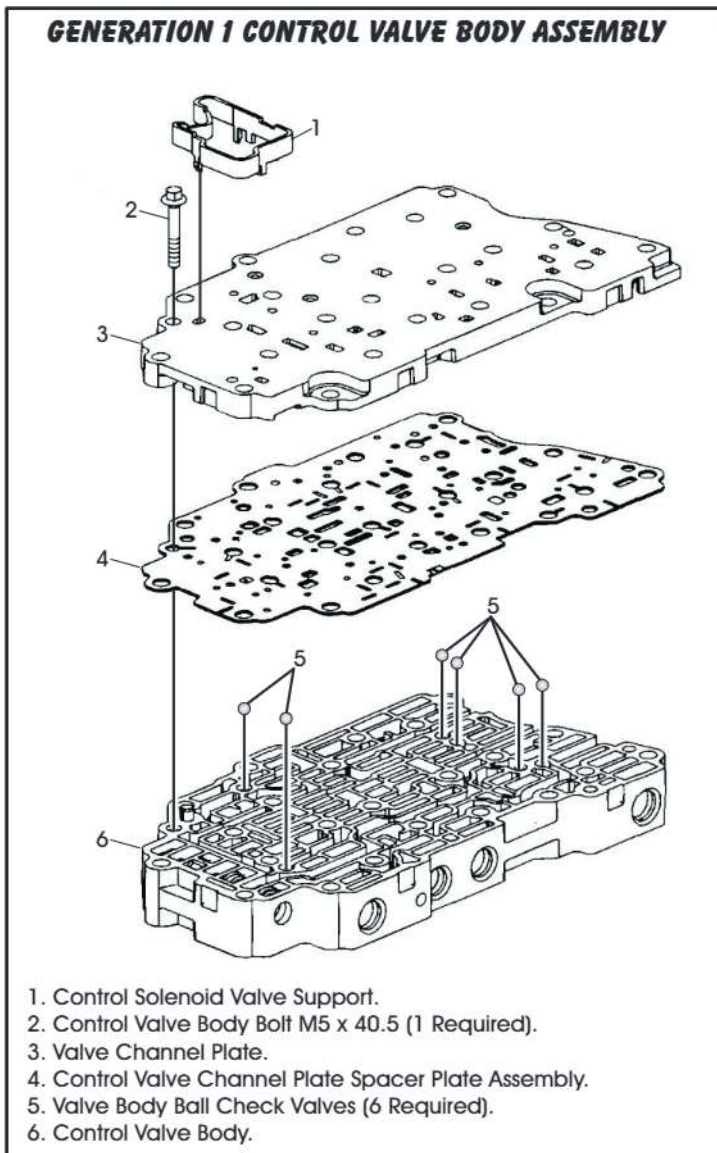

Figure 131
1. Remove the control valve body bolt and the solenoid valve support from the Generation 1 valve body assembly as seen in Figure 131.
2. Remove the valve body channel plate and spacer plate from the main control valve body assembly as seen in Figure 131.
3. Take note of the six steel checkball locations before removal shown in Figure 131.
4. Remove the six steel check balls from the main control valve body assembly and set them aside for reassembly as shown in Figure 131.